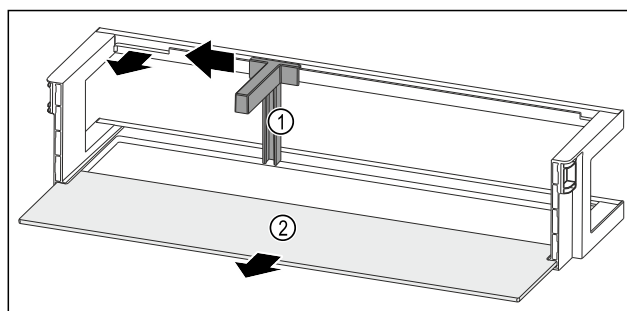

Fig. 84 Door rack with bottle holder and shelf
- ▶ Slide the bottle holder Fig. 84 (1) to the side as far as the recess.
- ▶ Remove the bottle holder Fig. 84 (1).
- ▶ Remove the shelf Fig. 84 (2).